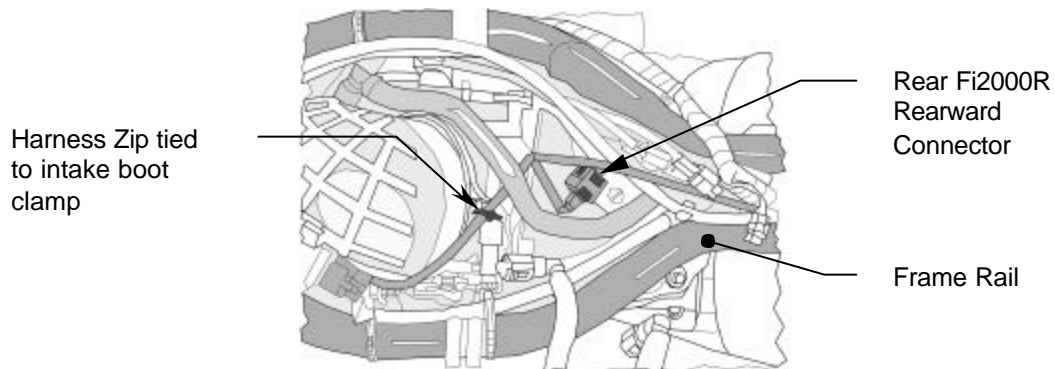

FIGURE 3
5. Locate the rear injector on the throttle body housing and repeat the procedure in Step 4. When finished, make sure the wire harness does not foul any throttle cable linkage. Zip tie the harness as indicated in, (Fig. 3.) Reinstall the fuel tank by reconnecting the white wire connectors and dry brake fuel line to the fuel tank.